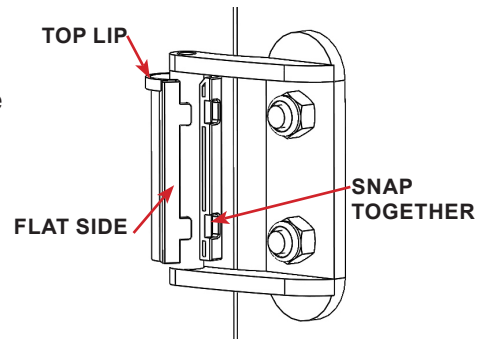

FIGURE 3.10 - Hinge Bushing Installation
STEP 2: Reinstall the hinge bushings with the larger end at the top. The top lip prevents the hinge bushing from sliding through the hinge assembly. Snap the two pieces together with the flat side of the bushings facing the cage door. See FIGURE 3.10